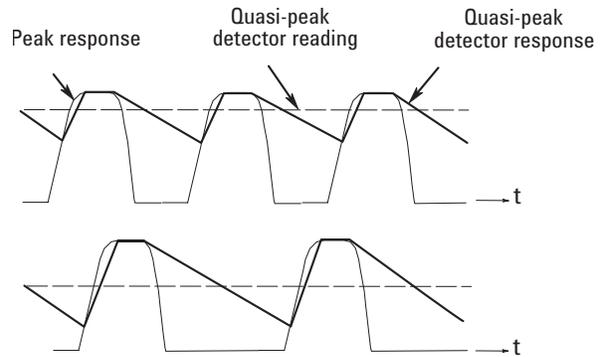

Figure D-2. Quasi-peak detector response diagram
Most radiated and conducted limits are based on quasi-peak detection mode. Quasi-peak detectors weigh signals according to their repetition rate, which is a way of measuring their annoyance factor. As the repetition rate increases, the quasi-peak detector does not have time to discharge as much resulting in a higher voltage output. (See Figure D-2 below.) For continuous wave (CW) signals the peak and the quasi-peak are the same.